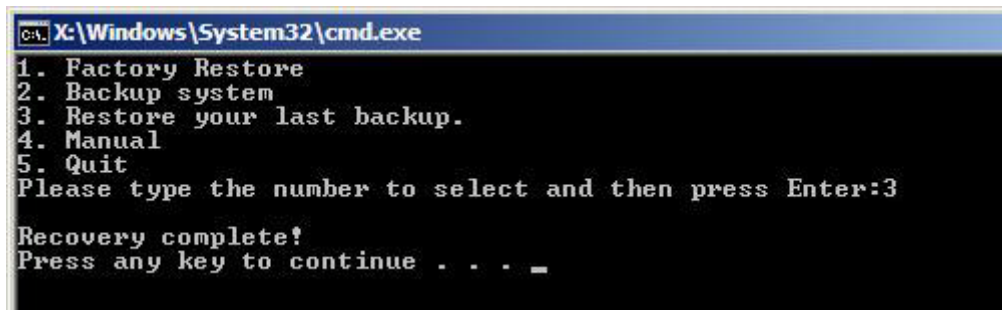

Figure B-39: Restore System Backup Complete Window
Step 3: The screen shown in **Figure B-39** appears when backup recovery is complete. Press any key to reboot the system.